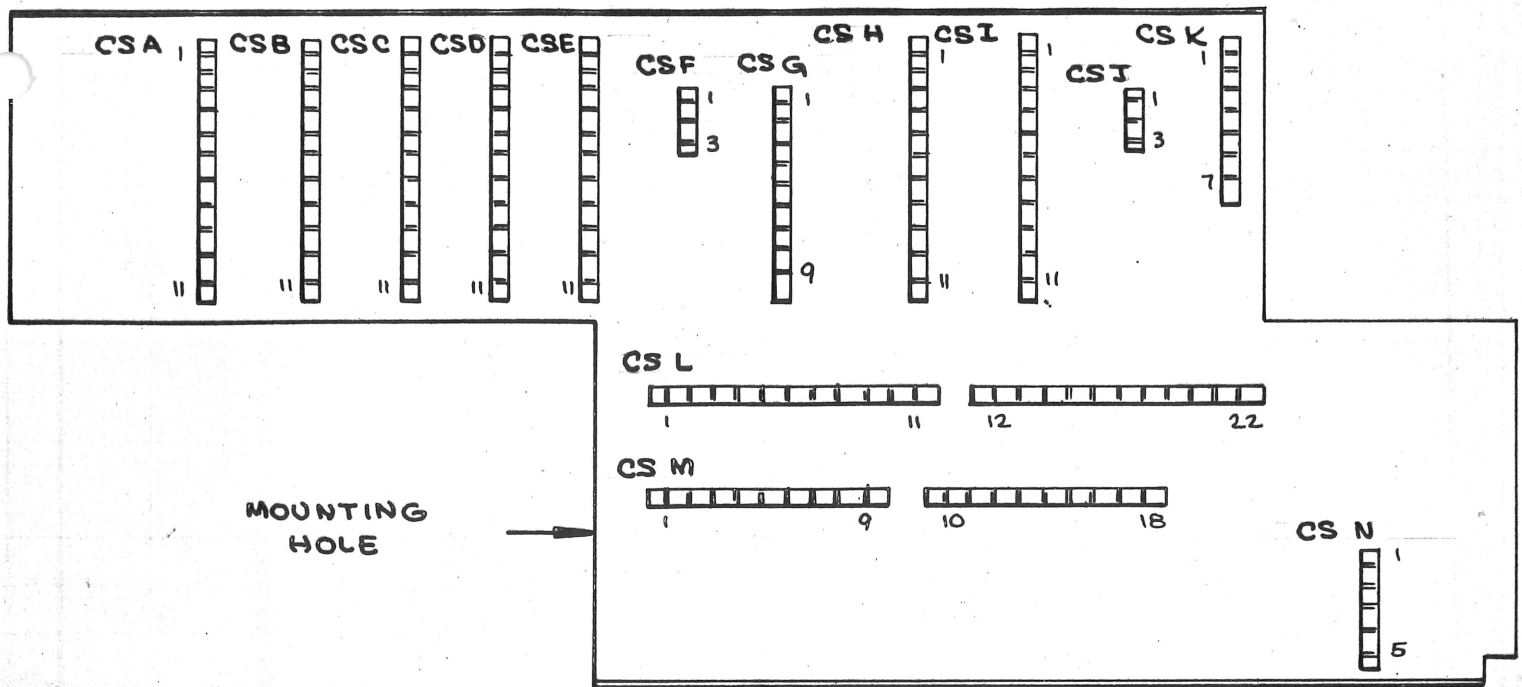

FIG. 1
- () 1. Locate the Vertical position of the shield between CSL-CSM and the TIME/DIV switch (see Fig. 1).